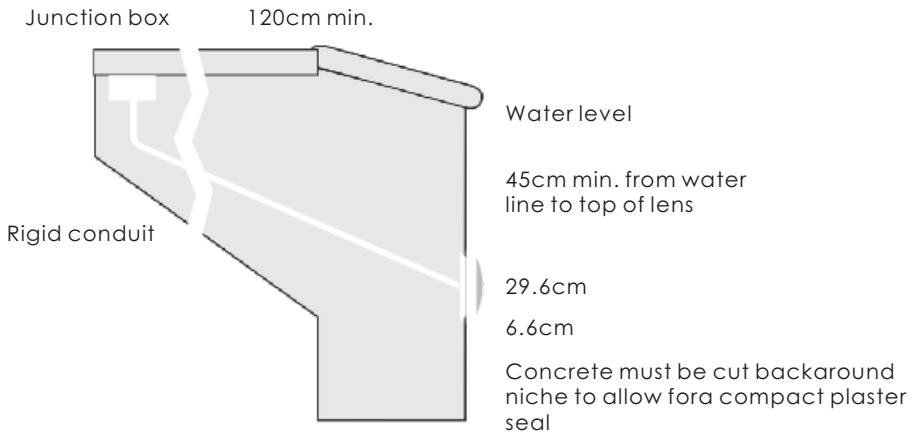

Figure 3
- 3) Make sure the voltage is 12-32V and the terminal box is at least 120cm from the poolside (Figure 3).
- 4) Upon installation, top of the light must be at least 45cm from water surface (Figure 3).